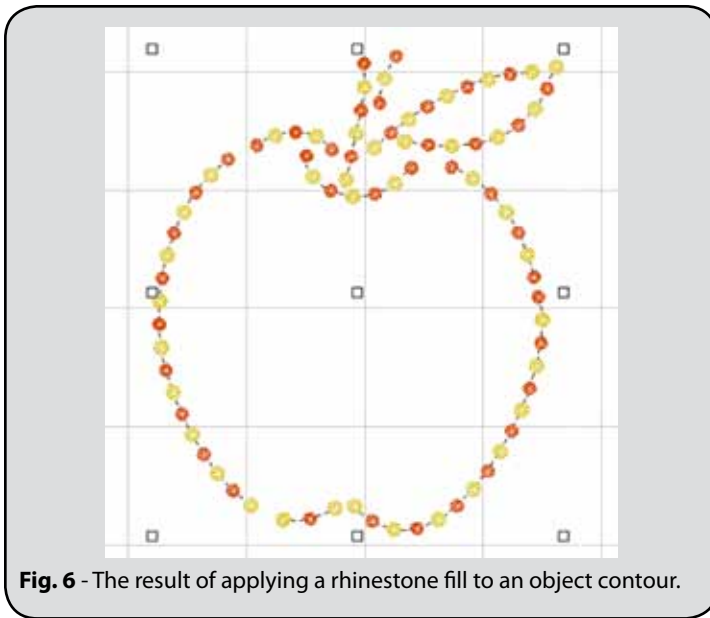

Fig. 6 - The result of applying a rhinestone fill to an object contour.
12. Click the **OK** button, and the resulting rhinestones will be shown on the workspace (Fig. 6).